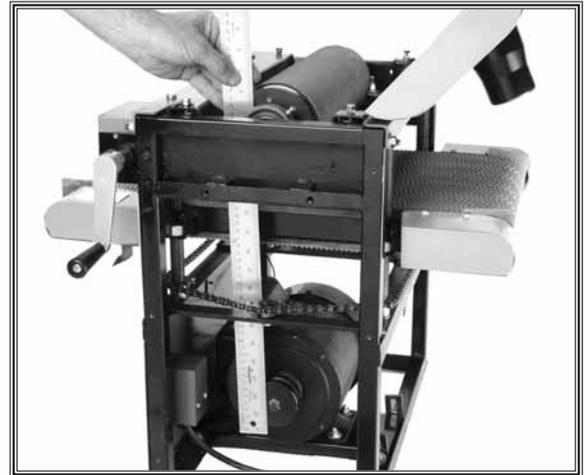

Figure 19. Pulley alignment.
3. Slide the motor as needed to align the pulleys to the straightedge shown in **Figure 19**.